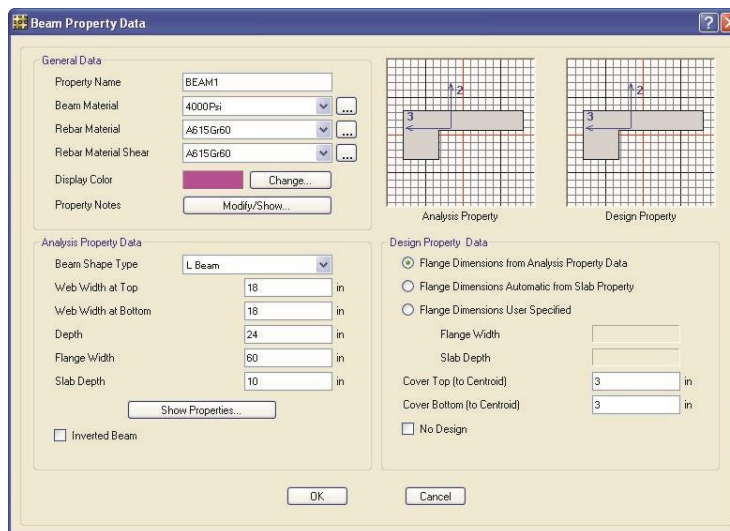

Figure 14 Beam Property Data form
- C. Click the **Modify/Show Property** button to access the Beam Property Data form shown in Figure 14. Recall that the beams for the project are 18 inches by 24 inches.